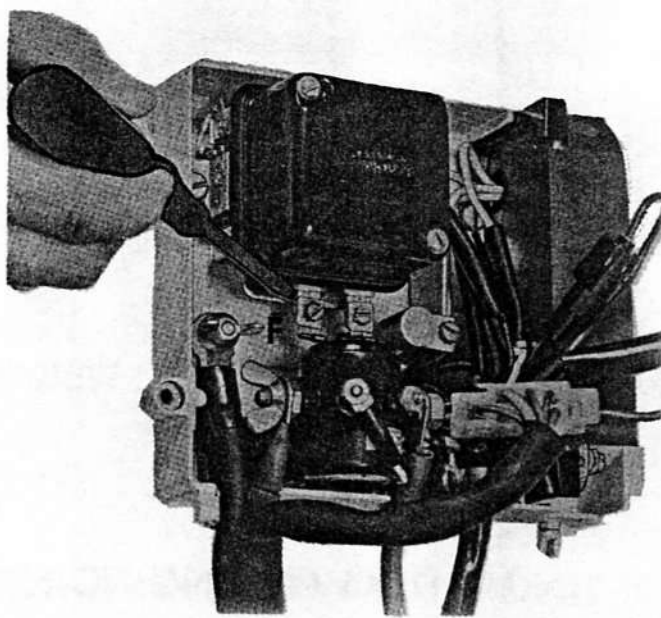

Figure 32
1. The AC generator can be checked for output by shorting between the regulator "F" terminal and ground with a screwdriver. (Fig. 32).